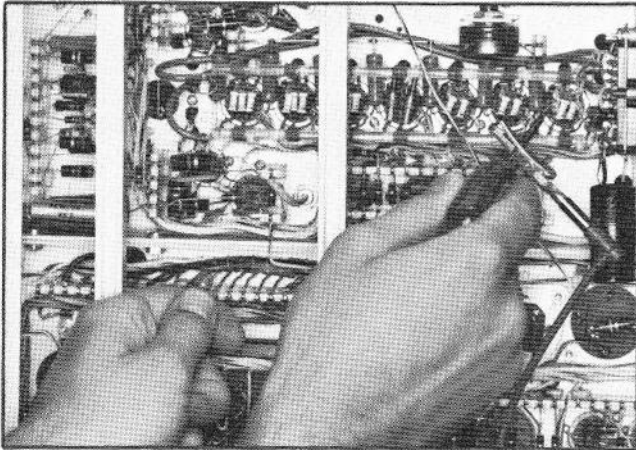

Fig. 6-9. Elevating cathodes of V1014 by applying +100 v to R1013. Be very careful to avoid grounding +100 v supply.
- A. In the Vertical Amplifier Delay Line Driver stage the cathode of all tubes is at about +52 volts. Thus if the voltage at pins 3 and 8 (the cathodes) can be elevated above the grid voltage, the tubes will be biased to cutoff. This can be done by elevating the cathode to +100 volts. With a clip lead attached to the metal part of an insulated handle screwdriver, touch the screwdriver tip to the cathode end of R1013. Then touch the other end of the clip lead to the +100 volt-supply as pictured in figure 6-9. Repeat with all tubes in the Vertical Amplifier Delay Line Driver stage. If more than half the tubes have been unbalanced in the direction of the major unbalance, replacing one or two of them with tubes unbalanced oppositely will probably correct the problem.